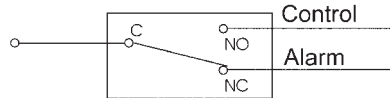

Figure 4
Before pressure is applied to the diaphragm, the switch contacts will be in the normally closed (NC) position. Control and alarm functions are wired as shown in Figure 4.